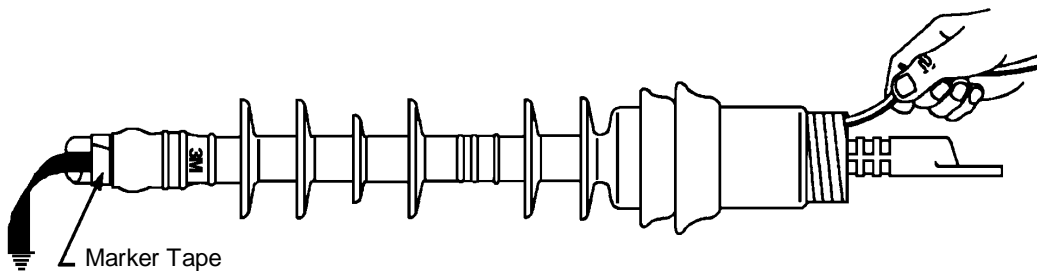

Figure 5
4. Remove termination core by unwinding counter-clockwise starting with the loose core end. Make sure the termination body is butted up to the edge of the marker tape (**Figure 5**).